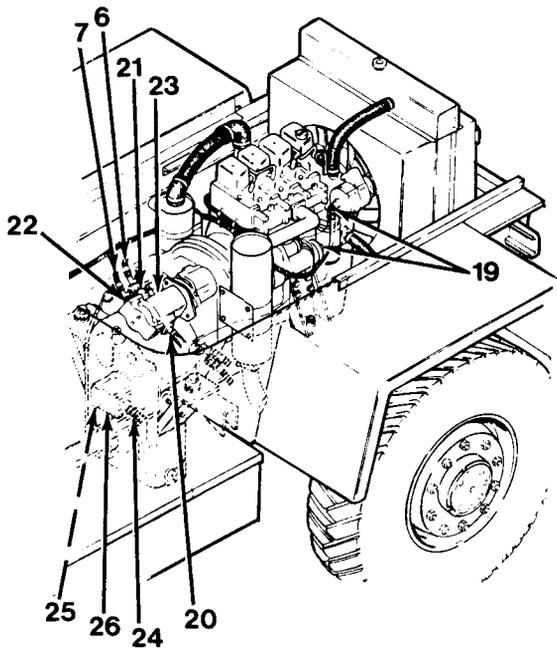

Figure 18-2
7. Disconnect all electrical connections (19, Figure 18-2) from alternator, starter and temperature and pressure sending units. Remove all mounting hardware from wiring harness.